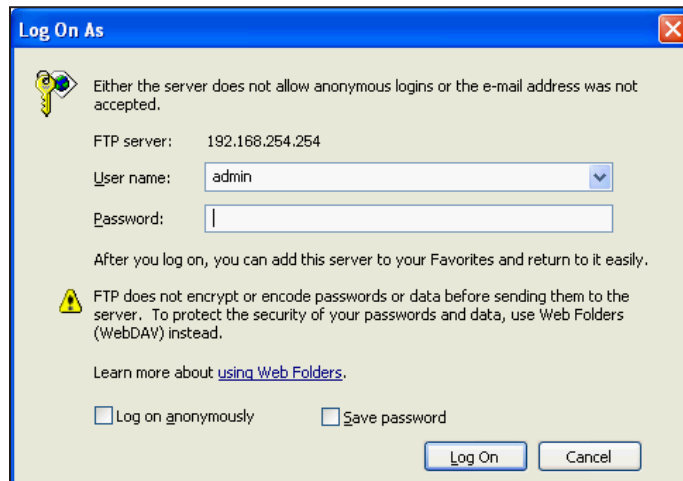
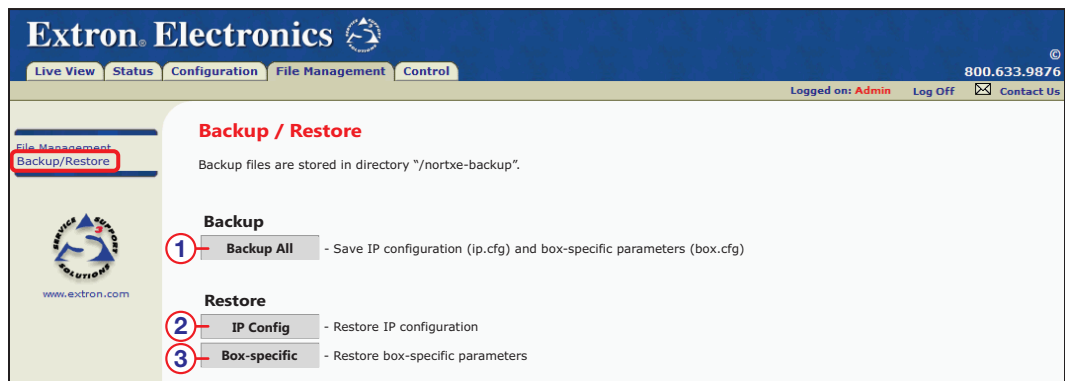

Figure 66. FTP Log On As Prompt
Figure 68. Backup/Restore Page
3. A Log On As window appears. Enter a user name and password and click **Log On** (see figure 66). For information on user names and passwords, see the "**Security Page**" section on page 113.
The File Management tab also contains a backup and restore page, accessed by clicking on the **Backup/Restore** link on the left sidebar (see figure 68).
3. Go to the File Management Tab (see figure 68 on page 74).
5. Under Backup select **Backup All** (item ① in figure 68 on page 74).
3. Select the File Management Tab (see figure 68 on page 74).
5. Under Restore there are two options to restore either the IP.CFG (② in figure 68 on page 74) or BOX.CFG (③ in figure 66). Select the config file to restore. The restore program starts automatically.